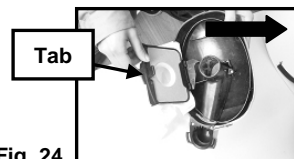

Fig. 24
5. The cardboard face of the new bag should rest securely in the dust bag cover guides. (Fig. 24)